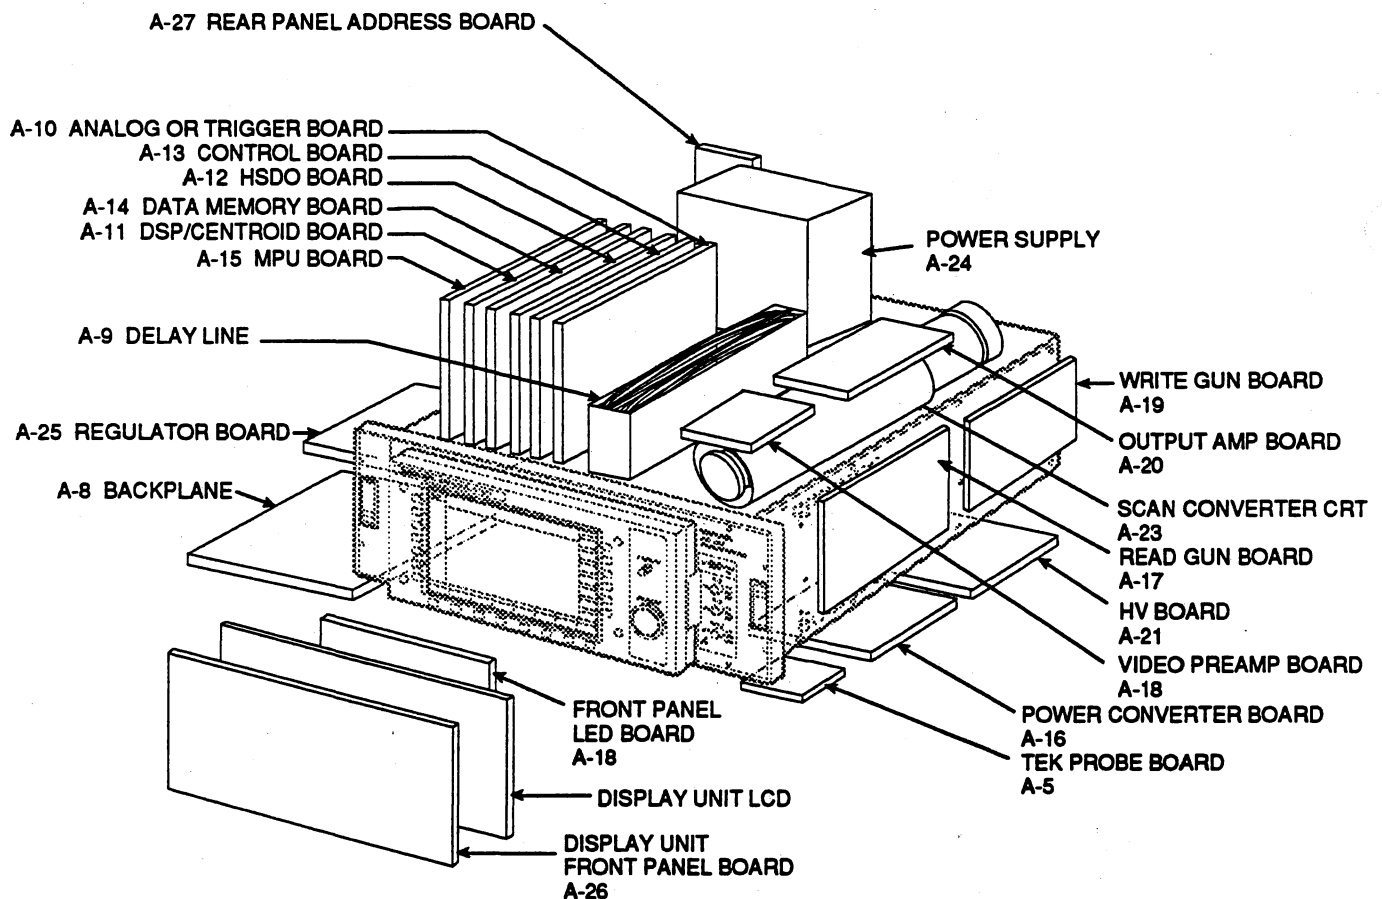

Figure 6-3: Module Locations
Refer to Figure 6-3 for an overview of all module locations. Table 6-2 lists the modules along with their part numbers and the calibration procedures necessary for the replacement procedure. In the calibration column, "internal" refers to calibration routines run using the SCD's internal firmware.
1. *Locate module to be removed:* Find the module to be removed in the module locator diagram, Figure 6-3.